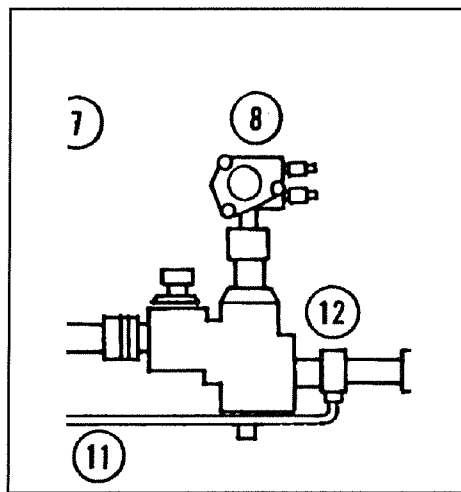

Fig. 1
4. Since the Equalizer has its own strainer screen, any screens downstream of the Equalizer should be removed. Also, **it is critical that the A-416 adaptor be installed to the outlet of the meter in order to provide manifold pressure feedback to the Equalizer (see Fig. 1 , "12")**. If there is a shutoff down-stream of the meter, the A-416 adaptor must be installed to the outlet of the shutoff.